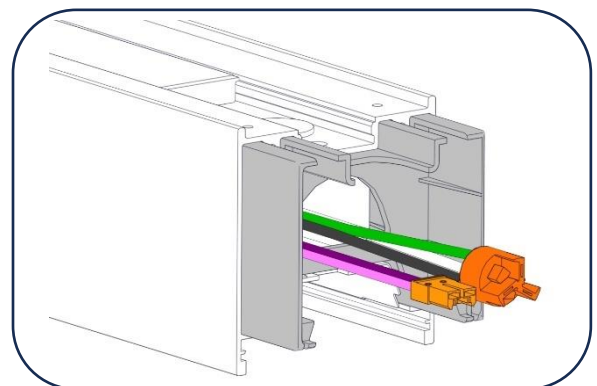

Figure 4
9. Insert a **Plastic Joiner** into the side(s) of the starter fixture, feeding the Harness wires through the center. [Figure 4]